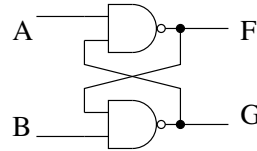

Figure 5.1
1. (8 pts.) Determine the state table for the circuit in Figure 5.1.